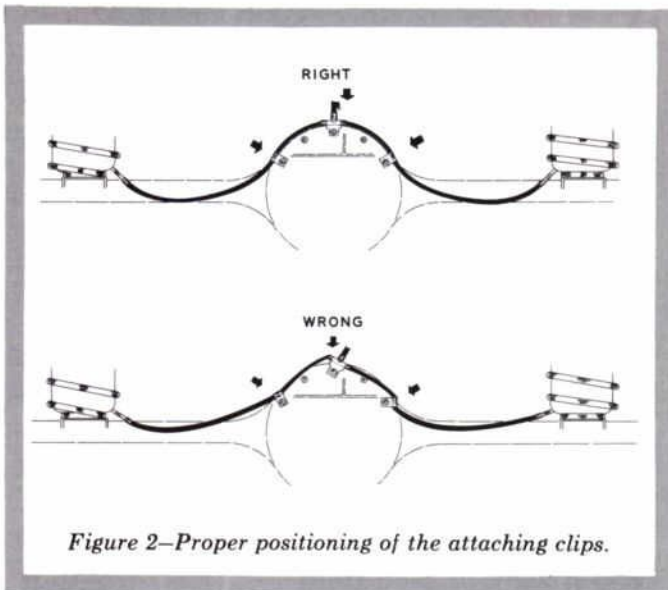

Figure 2—Proper positioning of the attaching clips.
9. Attach the hose ends to the valve stems of the cylinders and secure the hose assembly to the differential housing studs with two clips. See Figure 2. Be sure to put the clips in the proper location to allow for proper slack in the air hose.
Proper placement and tightening of the hose clips is essential in the installation of the air springs. If the clips are allowed to rotate while tightening the nut on the banjo, the hose will place excessive strain on the valve stems. It is important that the clips be positioned and tightened as shown in Figure 2 for maximum slack at the air spring valve stem.